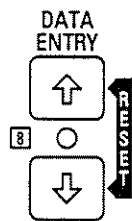

Figure 3-7: Data Entry Keys
3.2.5 Data Entry [8]: See Fig 3-7